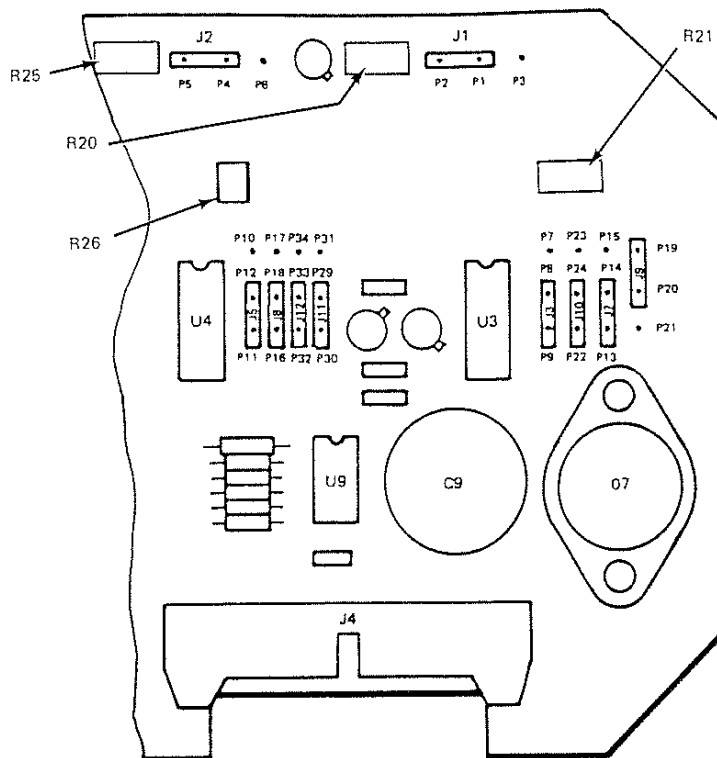

Figure 16. Power Supply and Output PWA Output Jumper and Position Locations
- c. Output 4 to 20 mA - Adjust R20 on power supply board until a reading of 1.00 V dc is achieved across a 250 Ω load (See Figure 16).
- b. 0 to 10 V dc Isolated - Adjust R21 on power supply board until a reading of 10.00 V dc is achieved (See Figure 16).
- c. 0 to 20 or 4 to 20 mA - Adjust R21 on power supply board until a reading of 5.00 V dc is achieved across a 250 Ω load (See Figure 16).
- c. Output 4 to 20 mA - Adjust R25 on power supply board until a reading of 1.00 V dc is achieved across a 250 Ω load (See Figure 16).
- b. Output 0 to 10 V dc Isolated - Adjust R26 on power supply board until a reading of 10.00 V dc is achieved (see Figure 16).
- c. Output 0 to 20 or 4 to 20 mA - Adjust R26 on power supply board until a reading of 5.00 V dc is achieved across a 250 Ω load (see Figure 16).